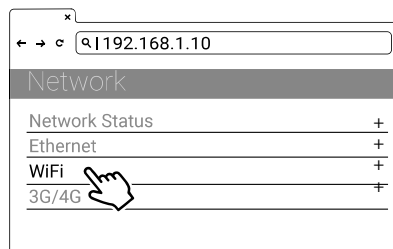

Figure 4-5. Network Select
- 2) Select Wi-Fi Module. Refer to the following figure 4-5.